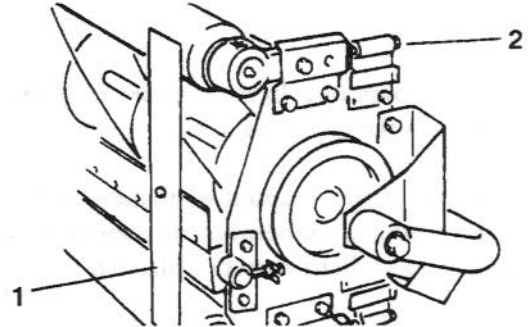

Figure 43
1. On the gauge bar, set the head of the screw to the desired height of cut (Fig. 43). This measurement is from the bar face to the underside of the screw head. The gauge bar (Toro Part No. 138199) may be obtained from your local Toro Distributor.